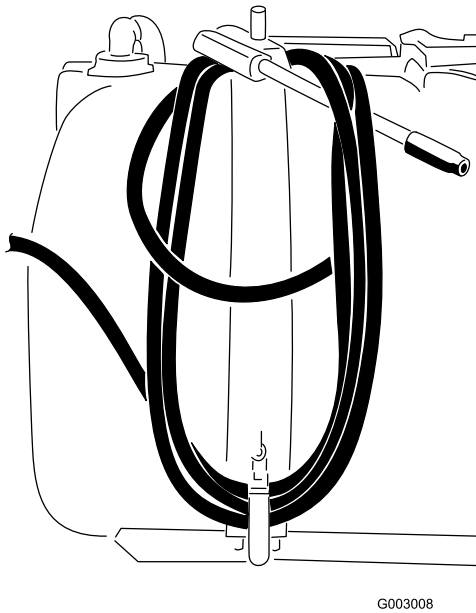

Figure 19
2. Wrap the hose around the hooks on the tank and secure the gun as shown in Figure 19.